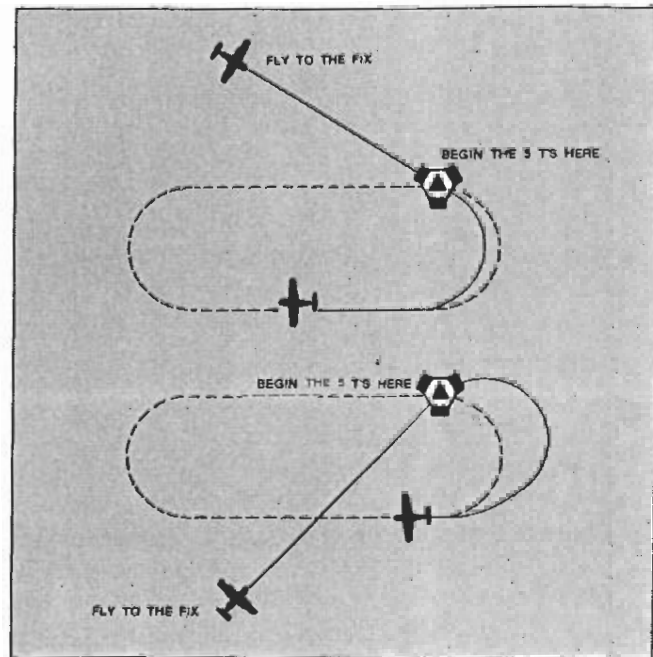

Figure 7-7
1. The *direct entry* (figure 7-7). Let's assume you approach the fix from the general direction in which the holding course lies. After reaching the fix the steps are: